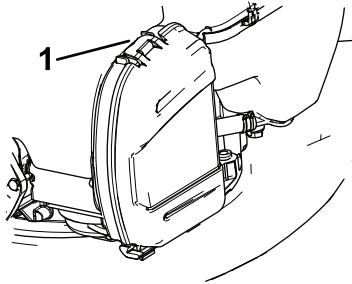

Figure 16
1. Pull the tab to open the air-filter cover (Figure 16).